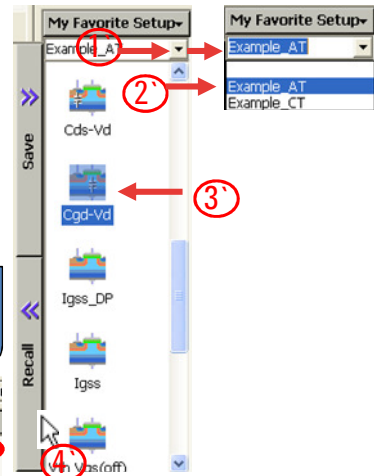

Figure 3-71. Cds Application Test setup.
Setup and execute the test by following the next steps. The same instruction steps are illustrated by the numbers on the "1. Starting from Application Test Library" side of figure 3-71.
Step 5. Set the test parameters shown in figure 3-71 to an appropriate one depending on your B1505A configuration and your test device.